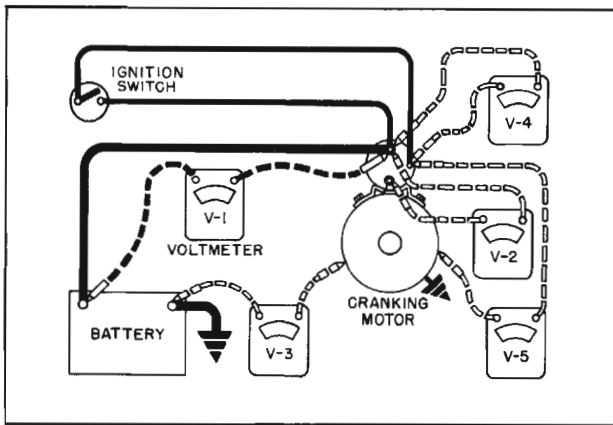

Fig. 14-40 Checking Starter Circuit Resistance
2. Measure the voltage drop (V1) during cranking between the positive battery post and the "battery" terminal of the solenoid. (Fig. 14-40)